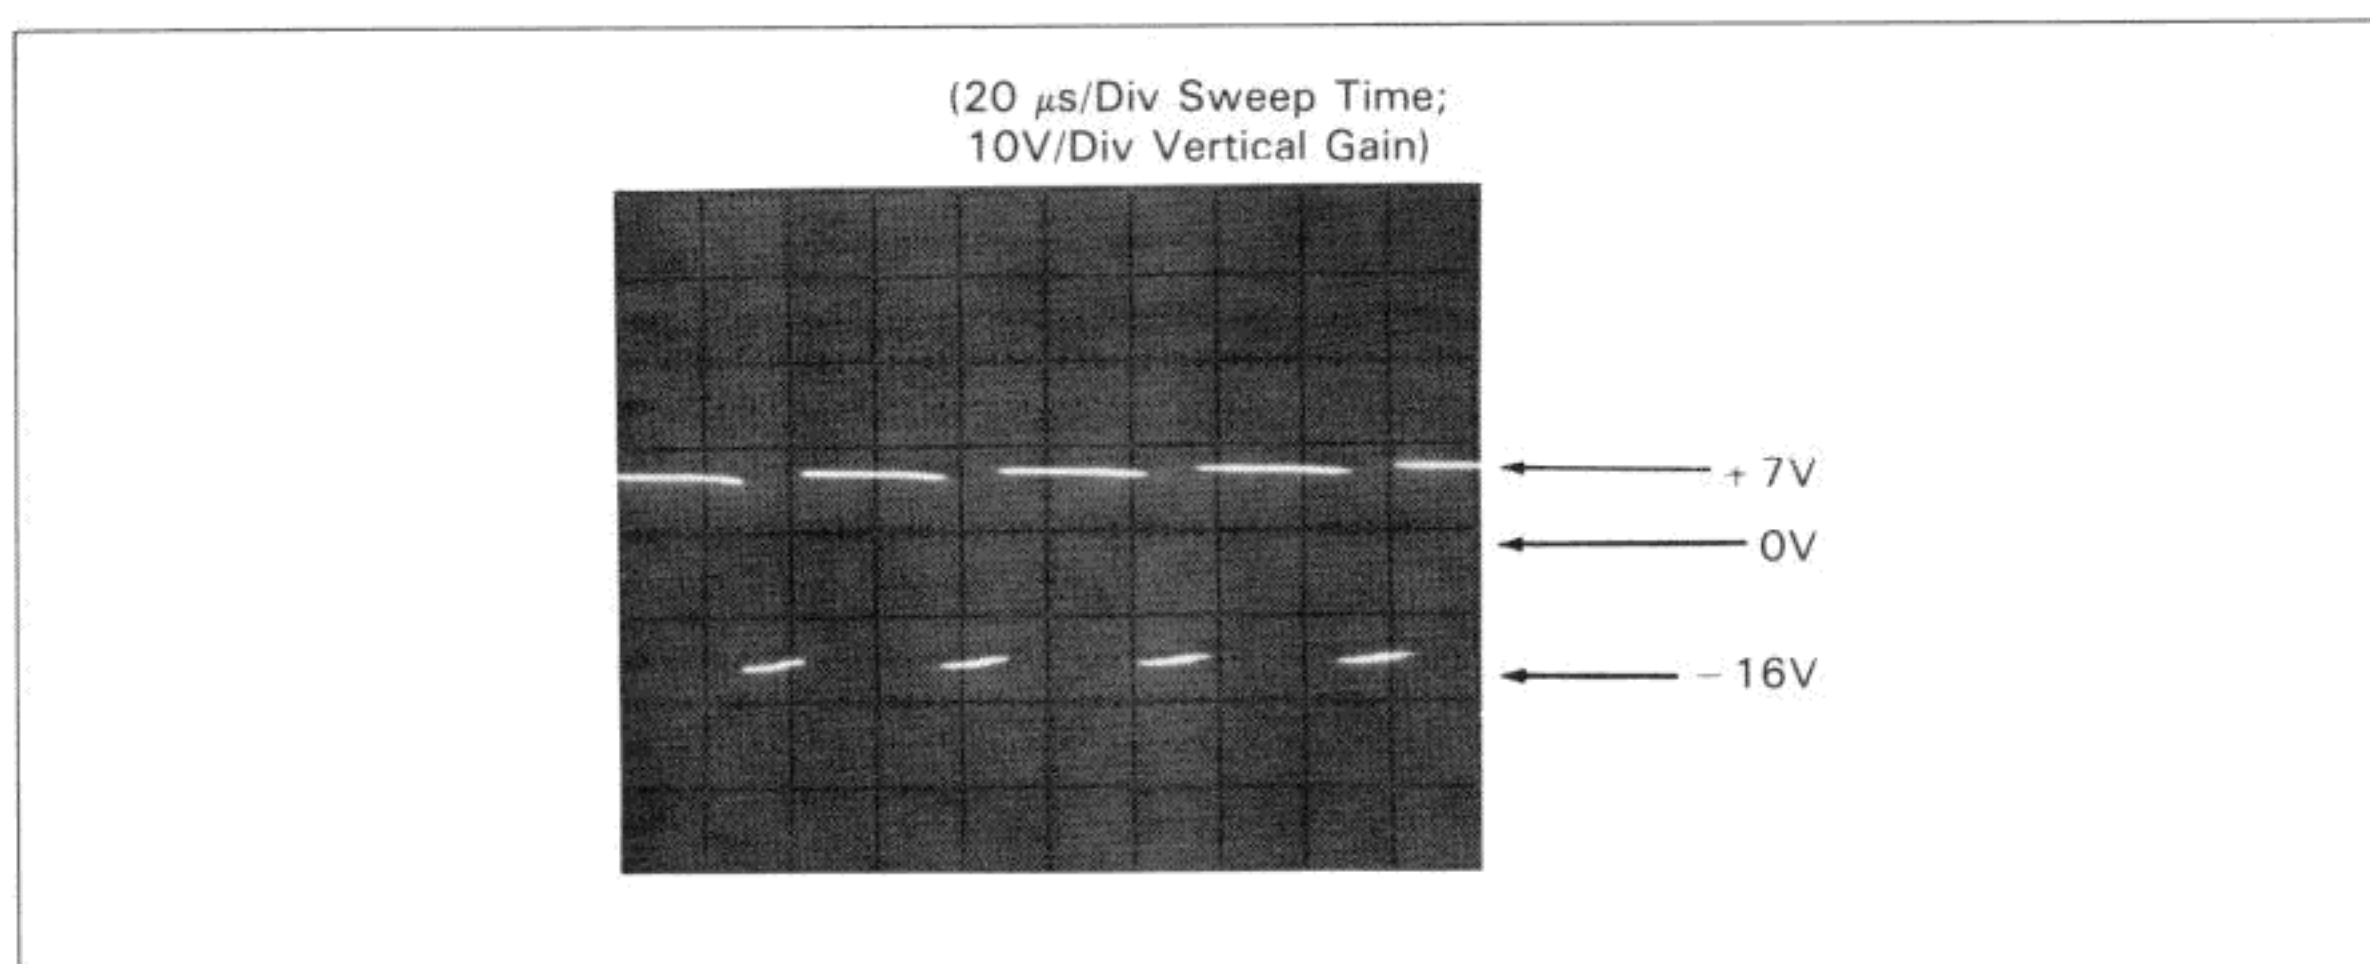

Figure 1-8-F-2. Q704 Collector Waveform
g. Using an oscilloscope set to a $20\mu\text{s}/\text{div}$ sweep time and a $10\text{V}/\text{div}$ vertical gain, check the collector of Q704 for the waveform shown in Figure 1-8-F-2. If it is incorrect, first check CR711. If CR711 is OK, check Q704 and Q705. If Q704 and Q705 are good, replace T701.